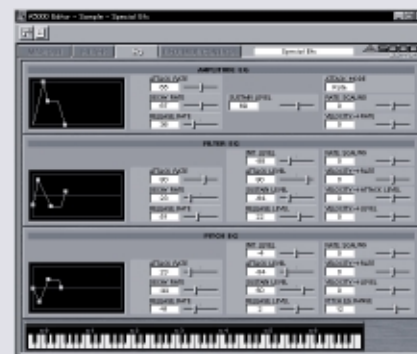

Figure 39
Displays the parameters available for editing with EDIT mode function key 4 (EG) (Figure 39).